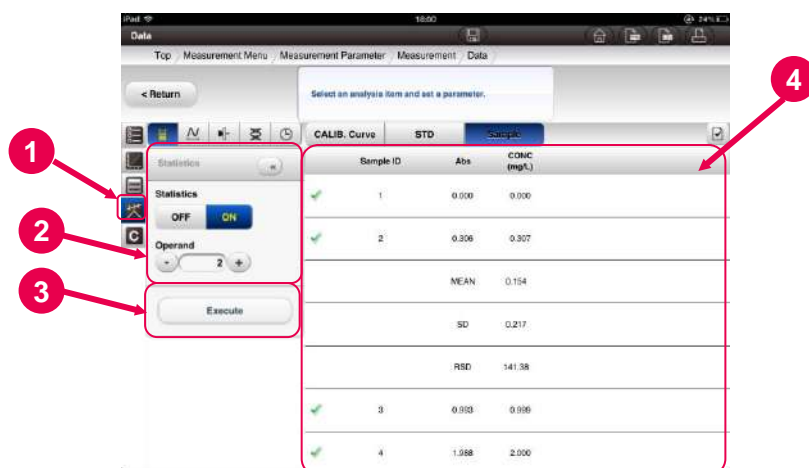

Fig. 5-26 Statistical Calculation Setting Parameters Window
- (1) To change the statistical calculation setting parameters, press the [Statistical Calculation Tool Icon] button .
- (2) The setting parameters for the statistical calculation (Fig. 5-26) are displayed. See 4.2.1 "Quantifying the Concentration of Solution" for the setting parameters.
- (3) Set up the items and press the [Execute] button.
- (4) The results of the data processing are displayed.